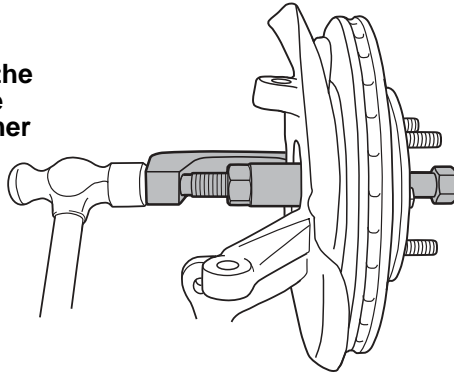

Figure 7
8. Using a 1-1/8" wrench on the nut, and a 1-1/16" socket with impact wrench on the head of the forcing screw, tighten the forcing screw into the nut to draw the hub out of the knuckle. See Figure 7.
*Tip: If the hub will not break loose from the knuckle, verify the tool setup is tight and aligned straight. Strike the top of the HubTamer with a hammer as shown in Figure 7. Once the hub breaks loose, use the 1-1/8" wrench and impact wrench with socket to tighten the forcing screw into the nut to draw the hub out of the knuckle.*